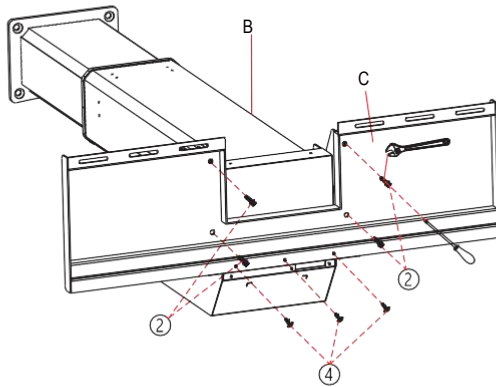

figure 1
Step1: Install the Wall Mount C on the lifting column B (figure 1).